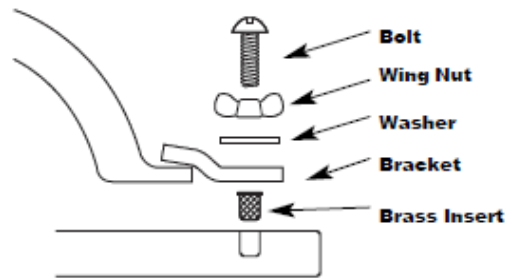

Figure C-8
- Locate the holes 1" (25 mm) from the side edges of the bowl flange and away from the bowl's front and back edges to allow clips to clear the cabinet frame (Figure C-8).
- Assemble the undermount hardware (Figure C-8).